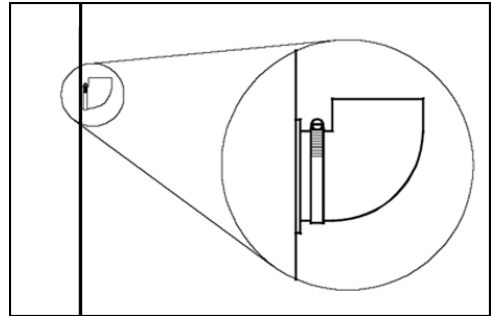

fig. 27
- Assemble the protective elbow at the steam exhaust facing upwards and fastened with the flange (fig. 27)